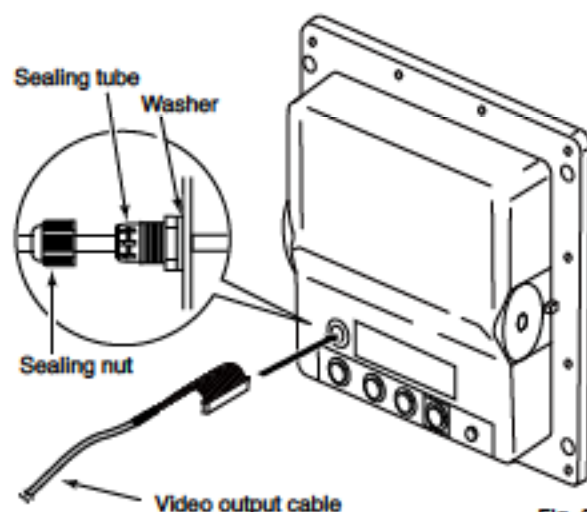

Fig. 2
- ① One of the connectors has a lock. Hold the release on connector head to disconnect the connector.
4. Pass the video output cable through the hole, then screw in and tighten the sealing tube. (Fig. 2)